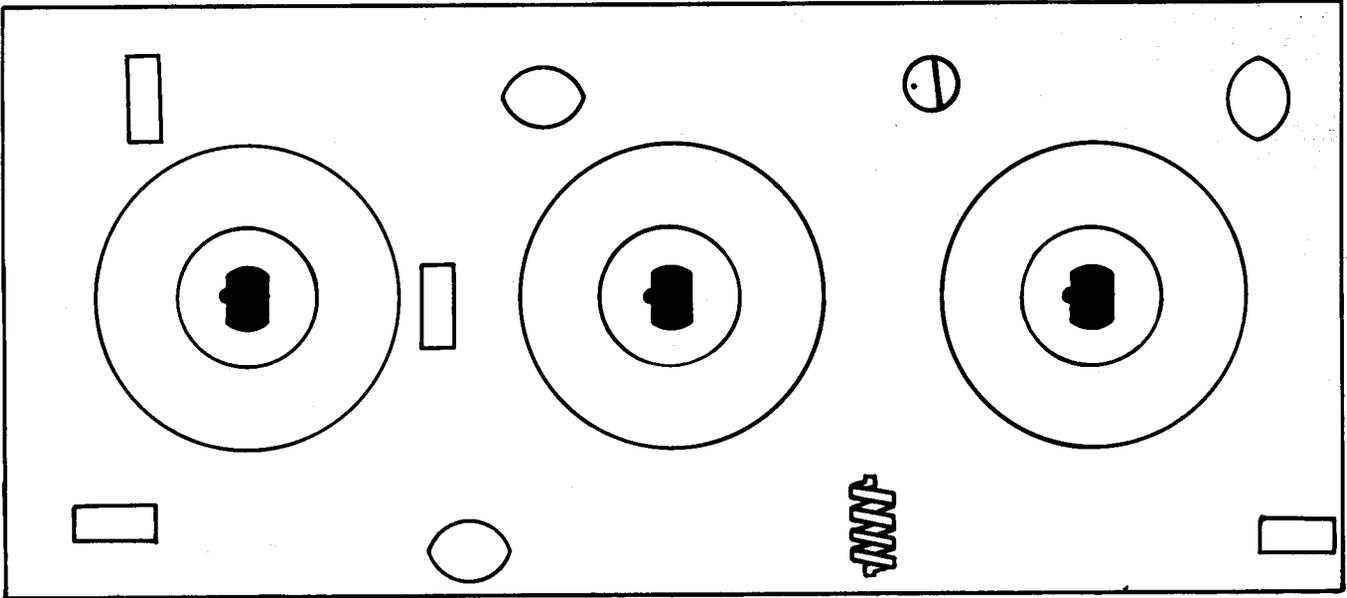

Figure 5-1. Proper Orientation of Switch Wipers at Reassembly
- i. At reassembly, refer to figure 5-1 to insure proper switch wiper position.